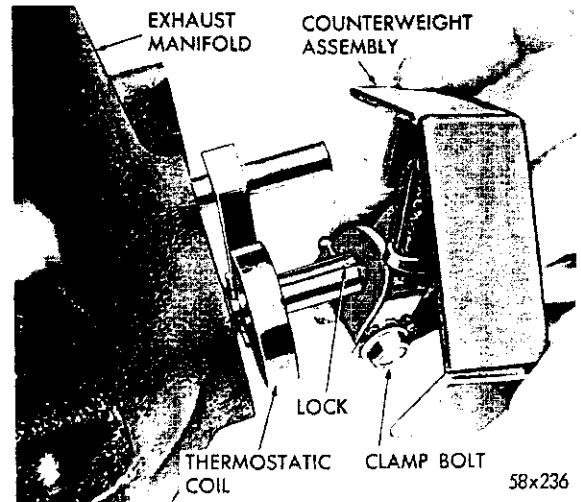

Fig. 11—Installing the Counterweight
(4) Place the counterweight over the shaft (with the weight in the upward position) and insert the lock in the shaft slot, as shown in Figure 11. Center the counterweight on the shaft and turn the assembly clockwise until the stop passes the pin. Press the counterweight on the shaft until seated, install the stop and tighten the clamp bolt 50 inch-pounds torque, with Tool T109-173. Test the valve for proper operation.